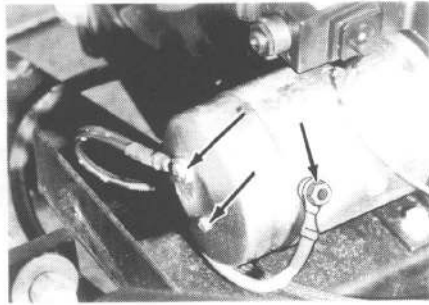

Figure 2-1
2. Remove two screws and remove the POS terminal and motor protective cover. See Figure 2-1.